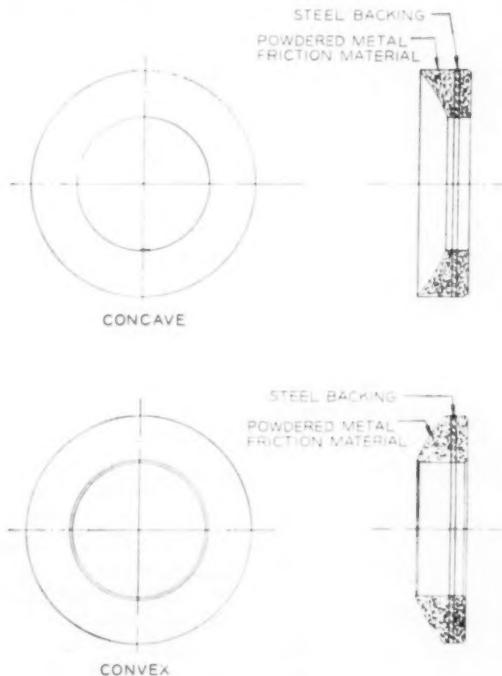

FIG. 11 DISK-TYPE SEALS
*Disk-Type Seals and Thrust Washers.* Powdered-metal materials of this construction are highly satisfactory for seals and thrust bearings, Fig. 11, which are required to meet high thermal and mechanical shock-load conditions. No general dimensional data are given for these parts as they are machined to order for particular applications.